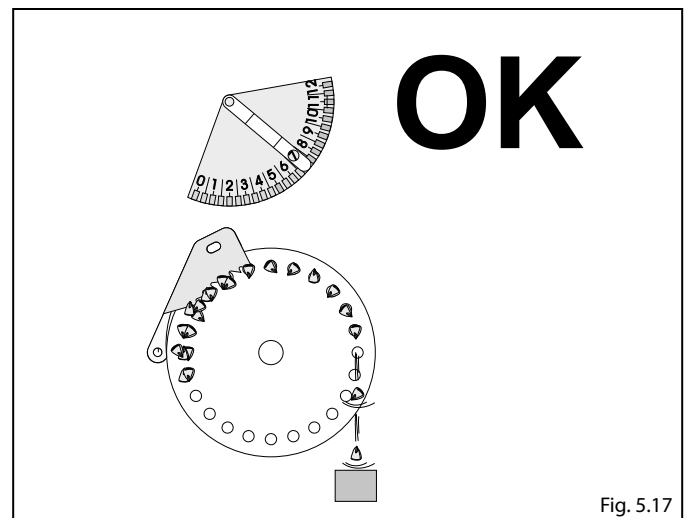

Fig. 5.17
**C)** After acting on the selector each hole of the distributor disc only carries one seed (Fig.5.17).